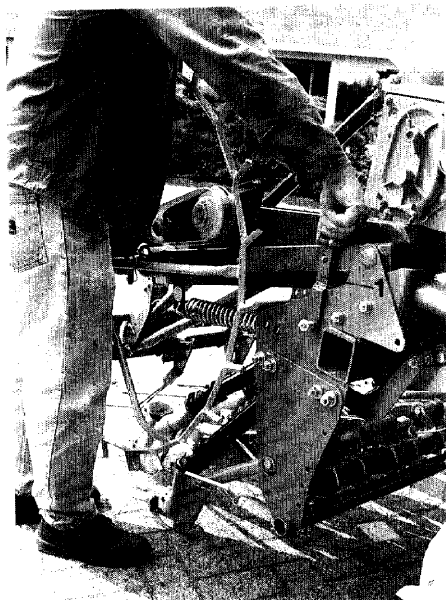

Fig.55
2. Hold the swivelable drive arm, pull the lever (Fig. 55/1) and lower the star wheel into working position.
Lift the swivelable drive arm and secure it by the lever (Fig. 55/1).